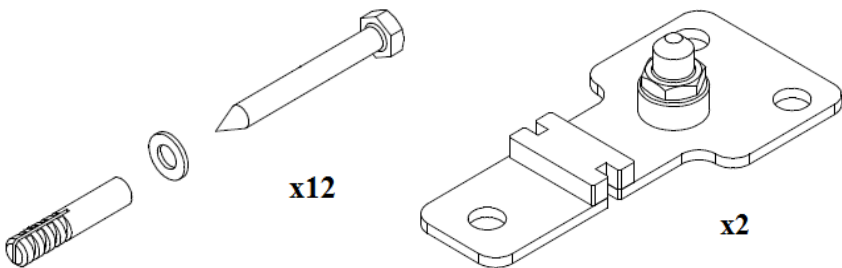
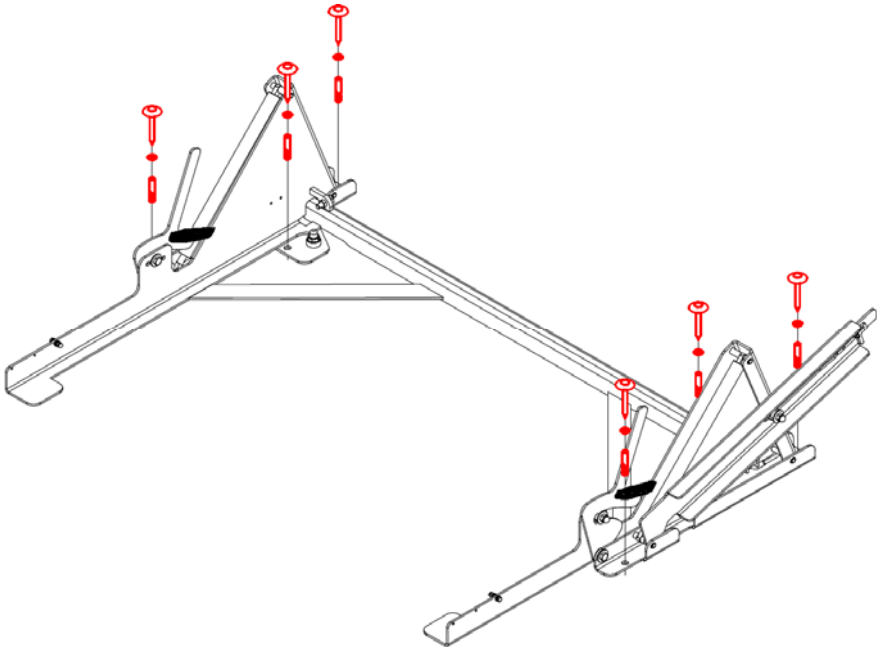

Fig.6. Fasteners
Fig.9. Assembly of the construction of the platform lifting system carried out using anchor bolts
4. Fix the construction of the platform lifting system (Figure 9) using anchor bolts included in the kit (Figure 6).